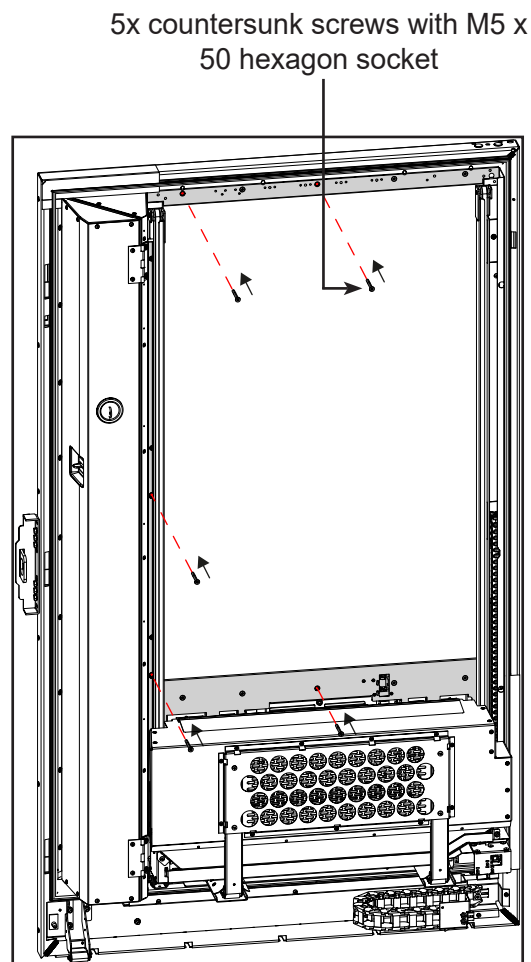

Figure 37
2. Install 5x countersunk screws with M5 x 50 hexagon socket (Fig. 37).